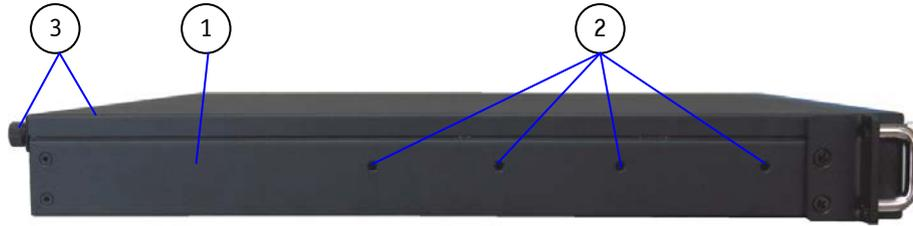

Fig. 11: Side view with tapped M4 metric holes to attach a telescope rail
The four M4 metric tapped holes (Fig. 11, pos. 3) are available at the left and right side of the unit. These can be used in order to attach slide rails (not included in the scope of delivery) to the KISS 1U Short V2 platform for system installation into a 19" industrial cabinet. Refer to the chapter 11 "Slide Rails (Option)".